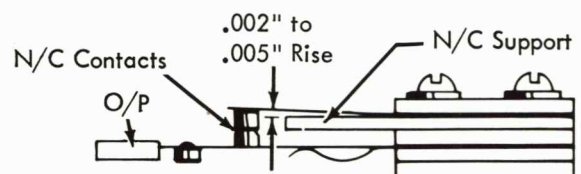

FIGURE 133. Contact Removed
1. Contact Removed - Form the N/C support so that the O/P lifts the N/C point .002" to .005" (Fig. 133).